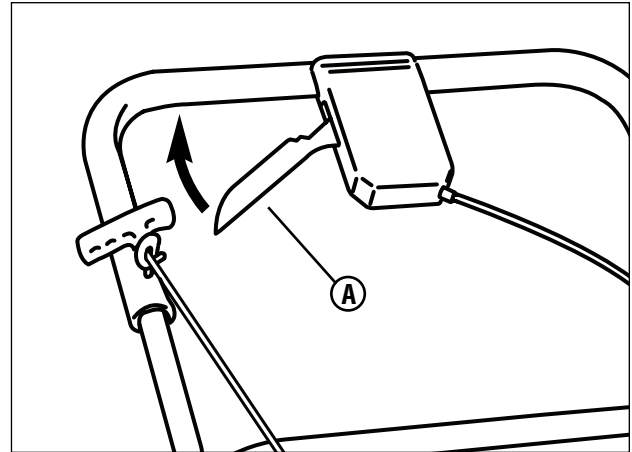

Figure 12: Operating the front wheel drive system
2. **Models SP2265 & NSP2265:** Pull the drive lever (**A**, **Figure 12**) completely back. The drive system is now engaged.